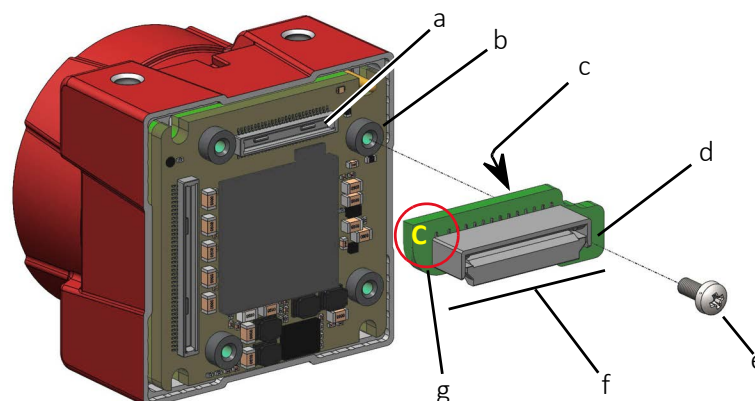

Figure 27: Alvim CSI-2 Flex camera, Interface Board, and screw
- Connect Alvim CSI-2 Flex Add-on Boards only as shown in Figure 27.
2. Plug the DF40C-50DS-0.4V connector (c) of the Alvim CSI-2 Flex Add-on Board to the Hirose DF40C-50DP-0.4V connector (a) of the camera as shown in Figure 27.